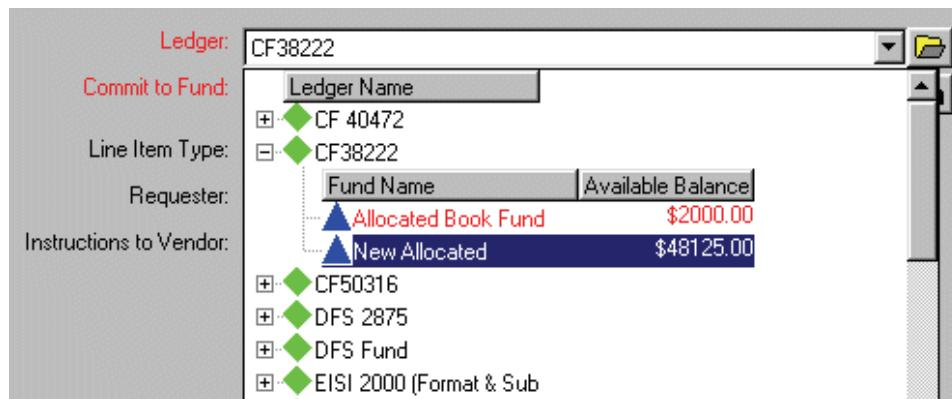

Figure 6-50. Ledger/Fund hierarchy displayed in the Ledger field
- If you want to select a fund from a ledger/fund hierarchy (Figure 6-50) rather than typing the fund code into the **Commit to Fund** field, click the **folder** button beside the **Ledger** field. This displays a hierarchy of available ledgers and funds. To aid you in selecting an appropriate fund, each fund's available balance displays within the hierarchy.